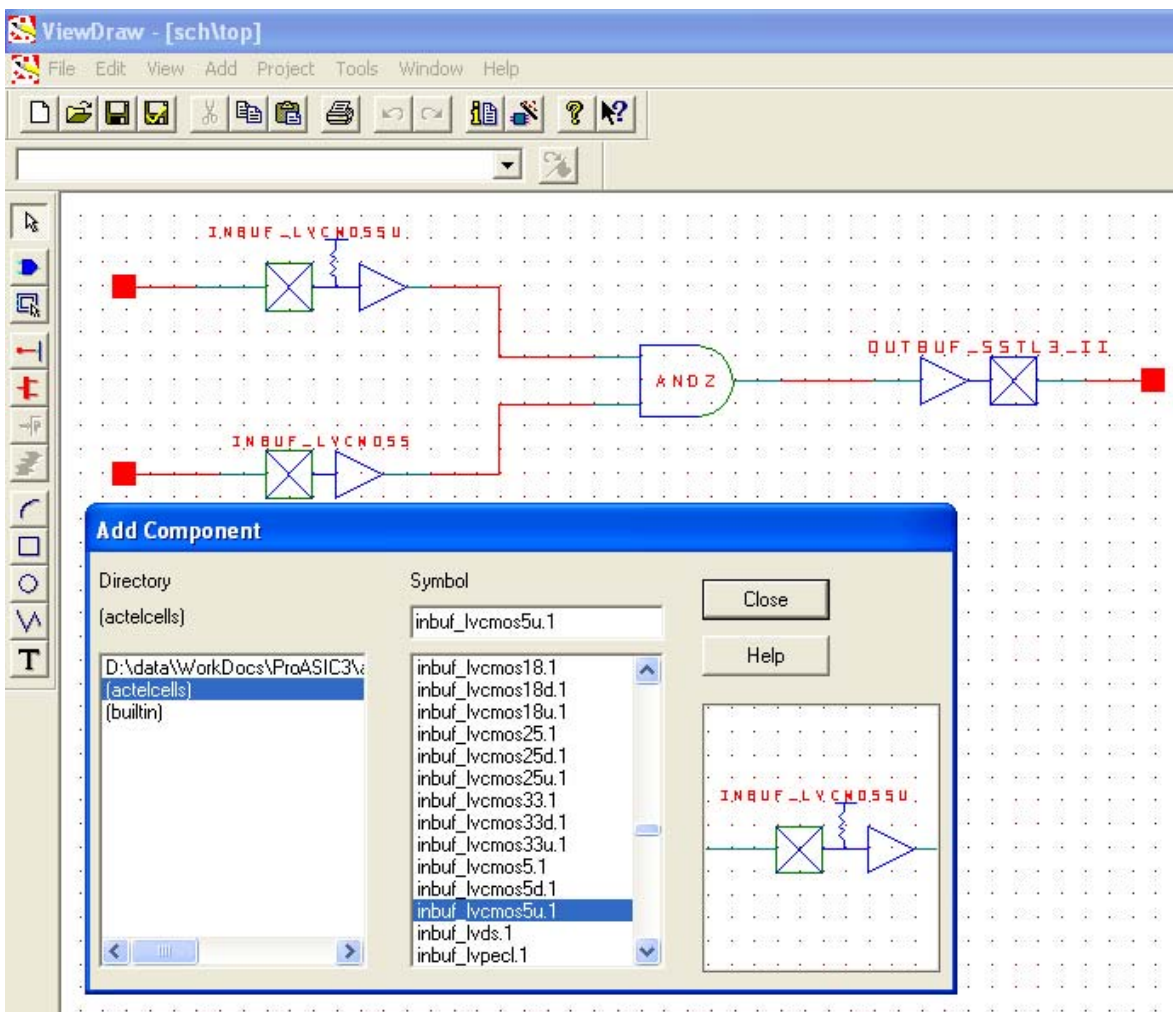

Figure 9-5 • I/O Buffer Schematic Cell Usage
- Enter a name for the macro. Click **OK**. The core will be generated and saved to the appropriate location within the project files (Figure 9-5 on page 257).
Libero SoC software includes the ViewDraw schematic entry tool. Using ViewDraw, the user can insert any supported I/O buffer cell in the top-level schematic. Figure 9-5 shows a top-level schematic with different I/O buffer cells. When synthesized, the netlist will contain the same I/O macro.